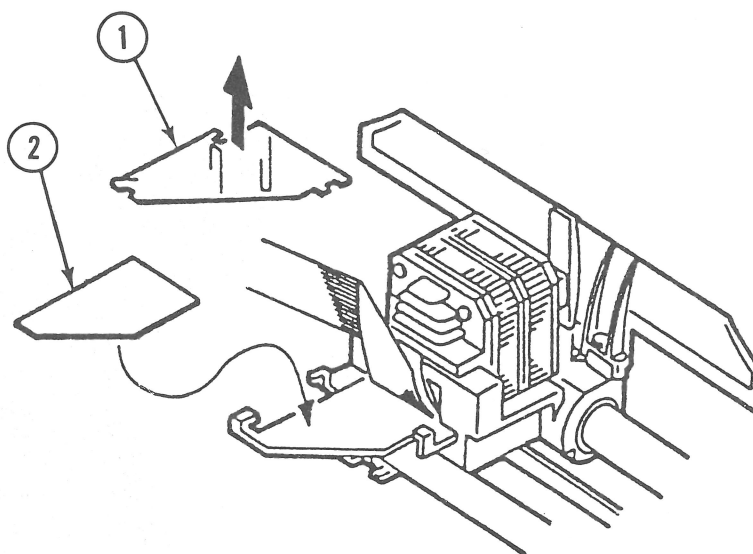

FIGURE 18
1. Remove the plastic protector (Figure 18, #1) from the print head relay cable.
3. Remove the backing, and position the damping material (Figure 18, #2) in the center of the flat area on the carriage assembly. Press down firmly.
4. Replace the plastic protector (Figure 18, #1).